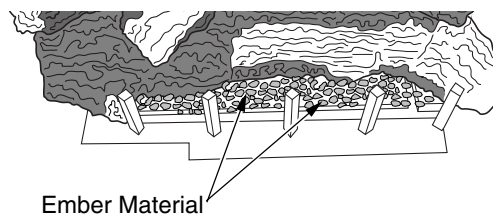

Figure 51 - Placing Ember Material on Burner
8. Pull ember material apart into pieces no larger than a dime. Place these pieces loosely and sparingly directly onto the exposed section of the front burner and along the space between the burner and grate prongs (see Figure 51). This will create the glowing ember appearance as the flame touches the ember material. Do not block air slots by using too much ember material in one area. It is not necessary to use all of the ember material provided.